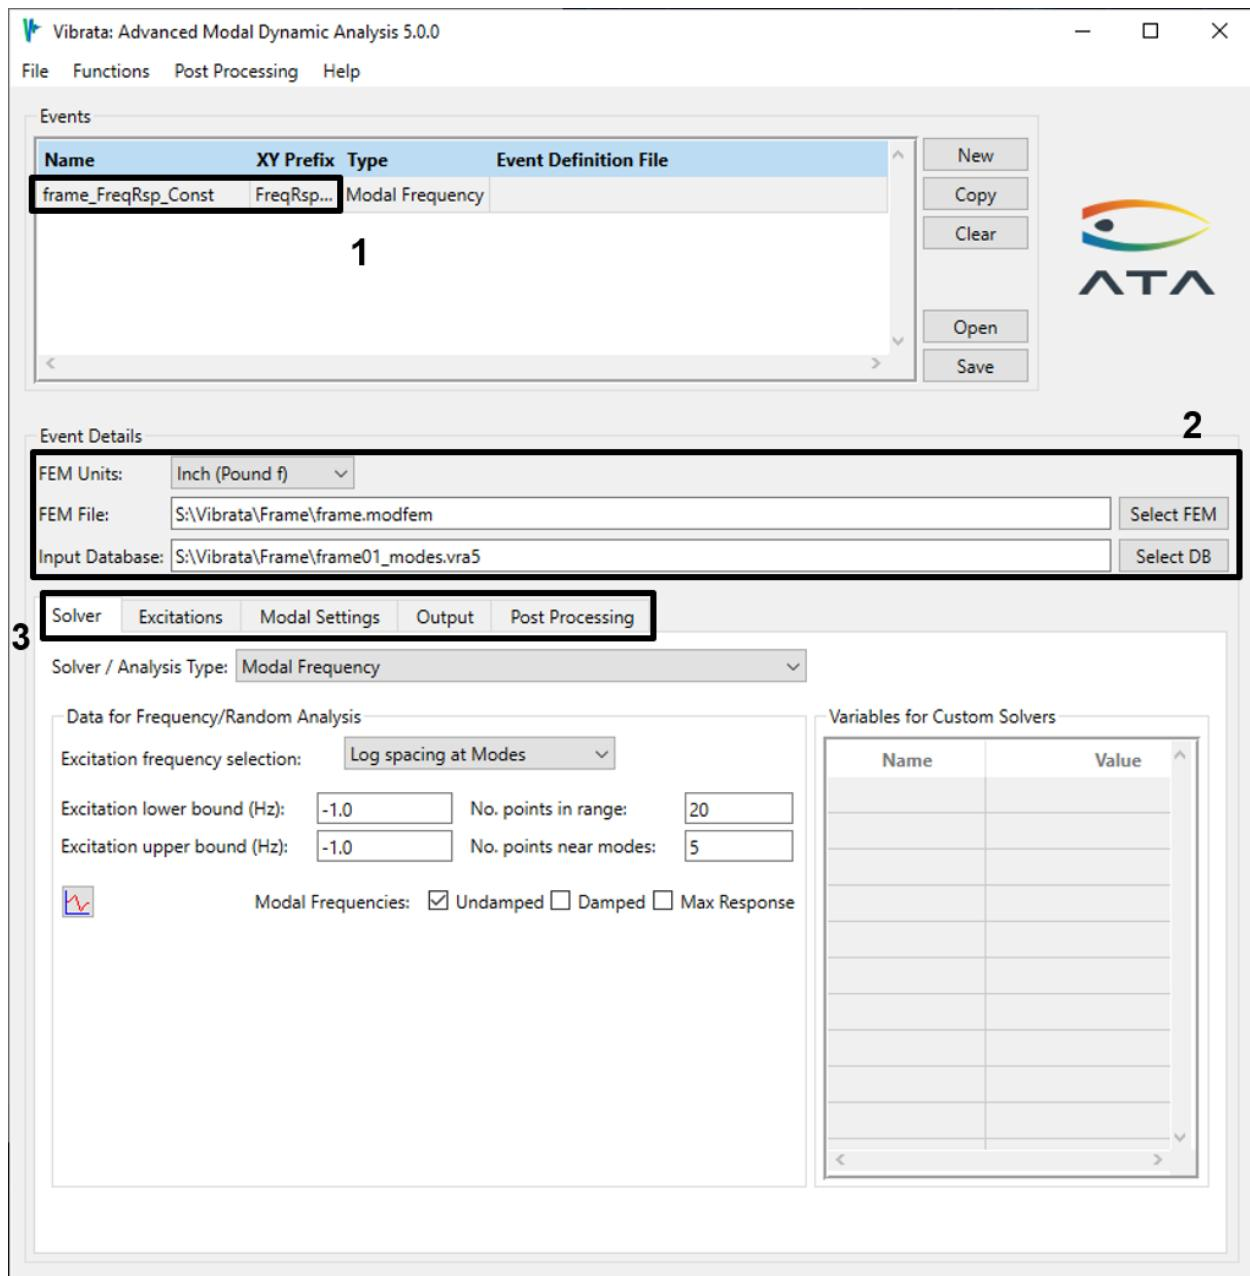

Figure 4-25. Create a new model frequency event using the frame model.
2. In the Event Manager, start a new modal frequency event and select “frame.modfem” for the FEM and “frame01_modes.op2” for the results. Give the event a recognizable name, such as the one shown in Figure 4-25.